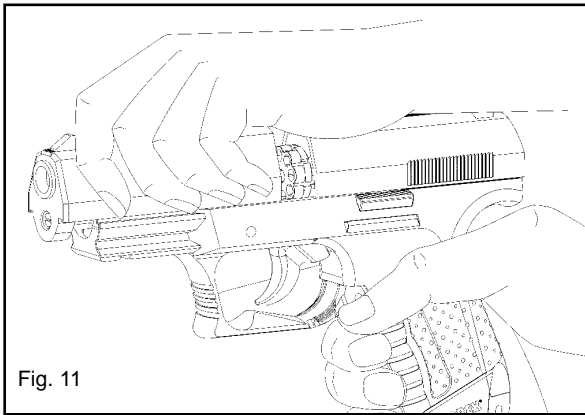

Fig. 11
- Close the air pistol by gripping the slide and pushing it back until it locks into place (Fig. 11).